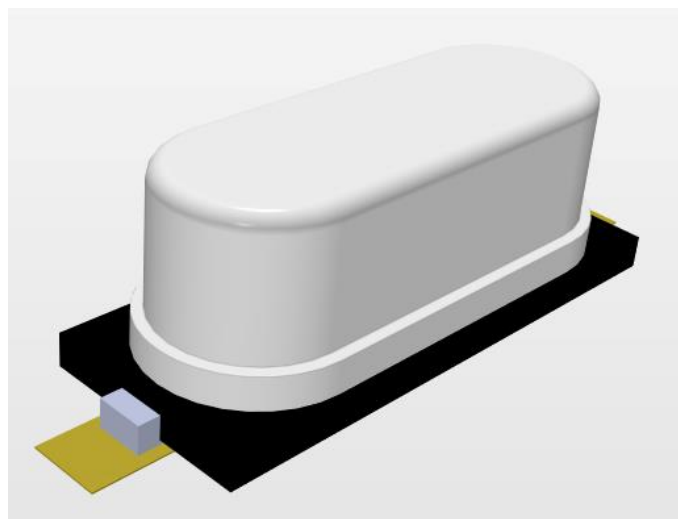

Figure 39. STEP 3D Crystal Body and Footprint
57. Hit the **3** key to view the body in 3D mode, as shown in Figure 39 below.